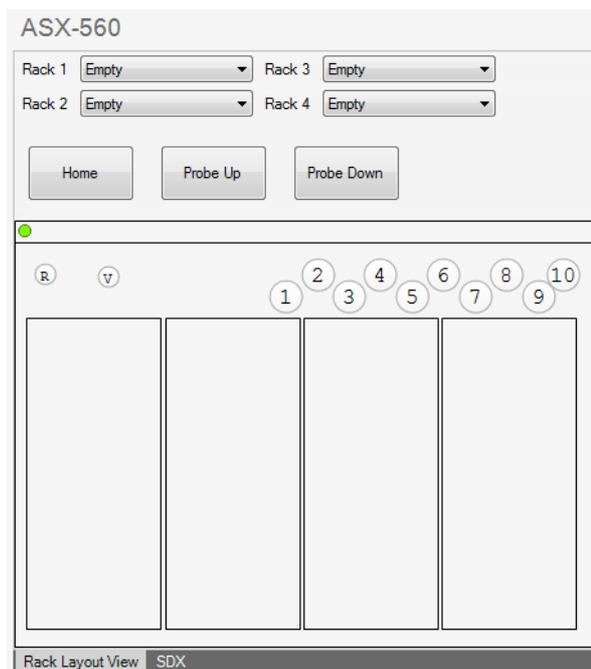

Figure 14-46. ASX-560 Rack Layout tab
1. Click the **ASX-560** tile to show the rack layout, see Figure 14-46.